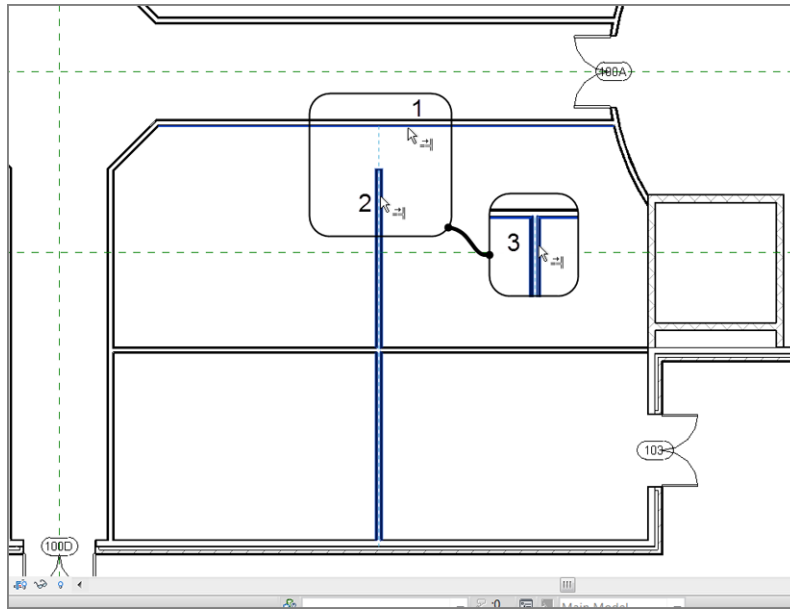

FIGURE 4.47: The finished walls
- 4.** Pick the vertical wall that doesn't quite intersect. Press Esc, and your walls should now look like Figure 4.47.